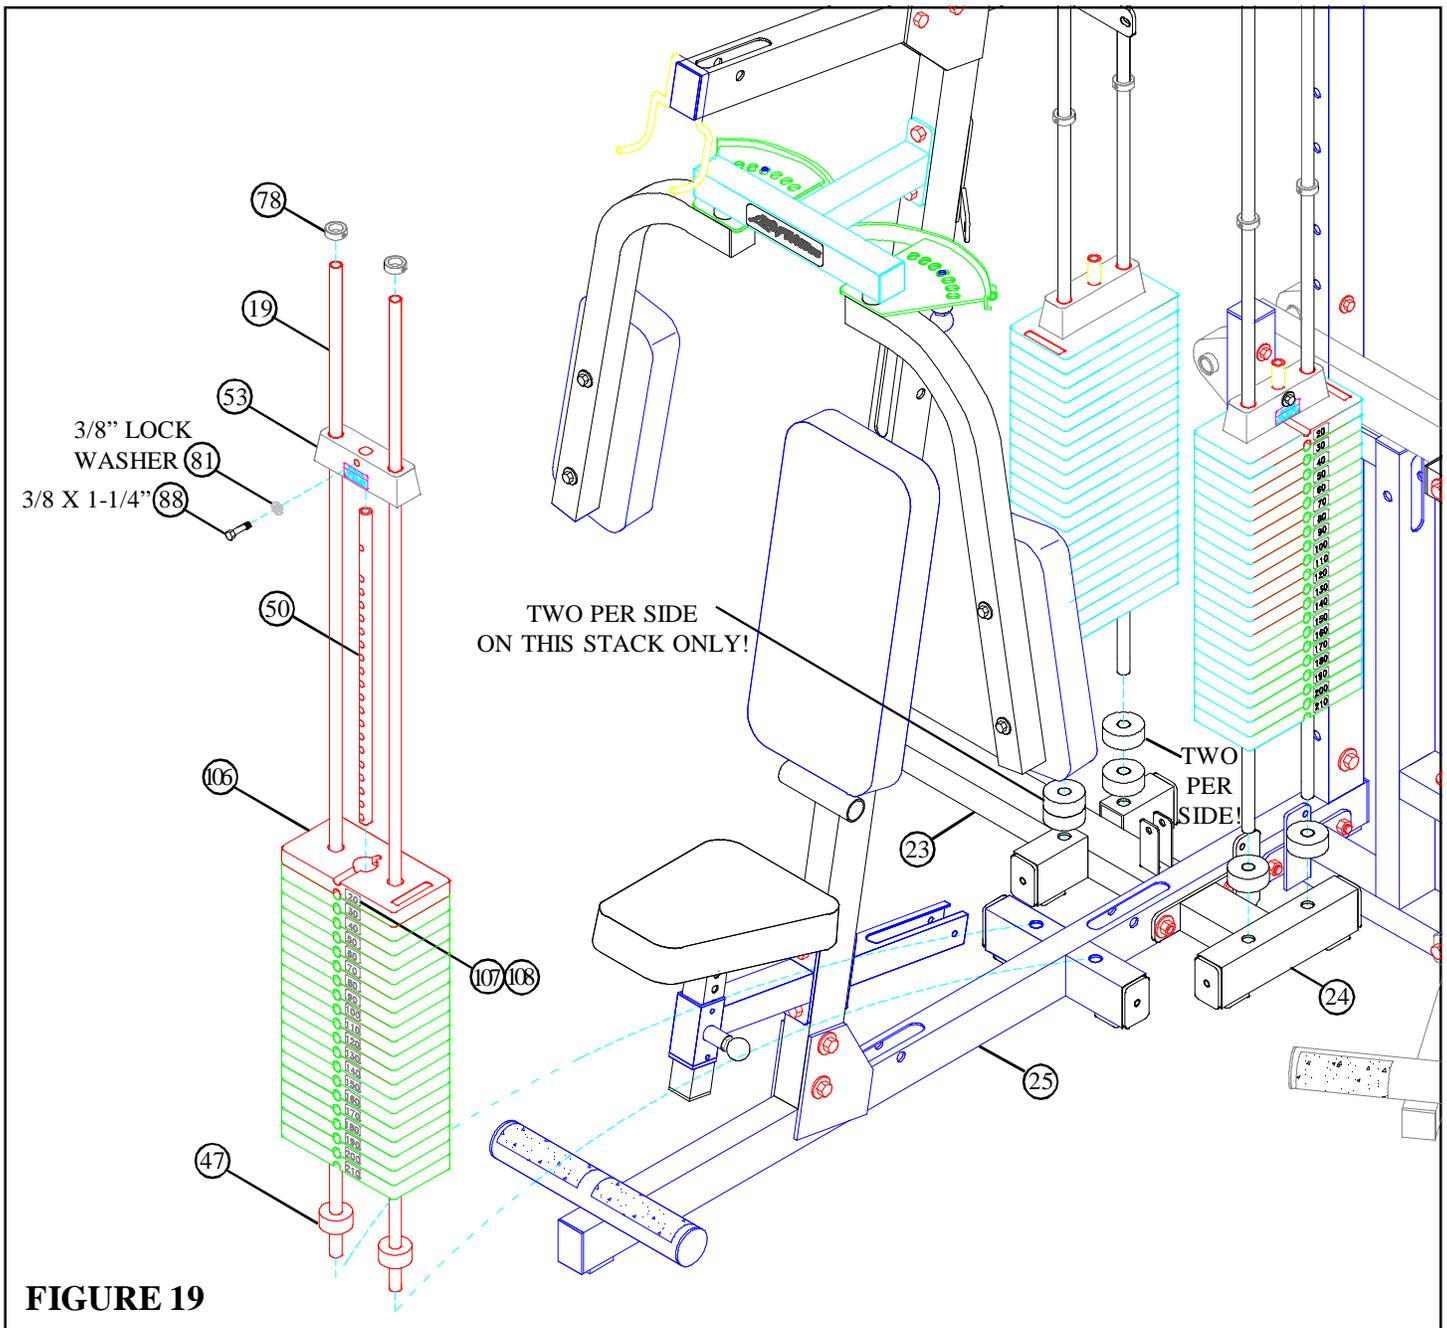

FIGURE 19
- Insert the two GUIDE RODS (19) into the BASE (25) as shown in FIGURE 19. Lubricate the GUIDE RODS (19) with a silicon or teflon spray that is available at most hardware stores.
- Slide two WEIGHT STACK CUSHIONS (47) down over the GUIDE RODS (19). See FIGURE 19.
- Using **EXTREME CARE** slide twenty WEIGHT PLATES (106) down over the GUIDE RODS (19) with the the key-hole facing as shown in FIGURE 19.
- **SECURELY** assemble the WEIGHT STACK SHAFT (50) to the HEAD PLATE (53) using one 3/8 X 1-1/4" BOLT (88) and one 3/8" BLACK LOCK WASHER (81). (Note: The bolt hole in the HEAD PLATE (53) should be on top.)
- Carefully Slide the HEAD PLATE ASSEMBLY down over the GUIDE RODS (19) onto the weight stack as shown.
- Apply one set of WEIGHT STACK LABELS - LBS. OR NUMBERED 1-20 (107) (108) to each WEIGHT PLATE (106). See FIGURE 19.
- Slide two 13/16" SHAFT COLLARS (78) over the GUIDE RODS (19) as shown in FIGURE 19.
- REPEAT the above steps to assemble the weight stacks on the PRESS WEIGHT STACK BASE (24) and the LEG WEIGHT STACK BASE (23). (NOTE: Use four WEIGHT STACK CUSHIONS (47) (two per guide rod!) on the LEG WEIGHT STACK BASE (23) as shown in FIGURE 19.)